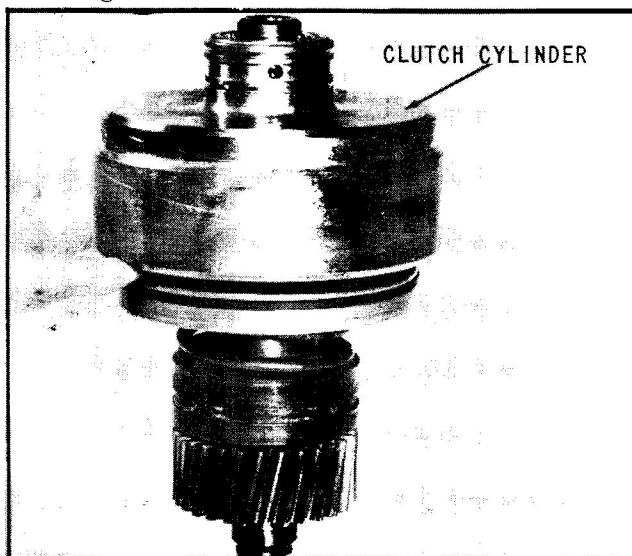

Fig. 37 Install Clutch Cylinder
12. Install clutch cylinder over output shaft and piston assembly. Be careful not to damage rubber sealing rings and check after assembly is complete to see if any rubber has been sheared from sealing ring as ring entered clutch cylinder, (Fig. 37).